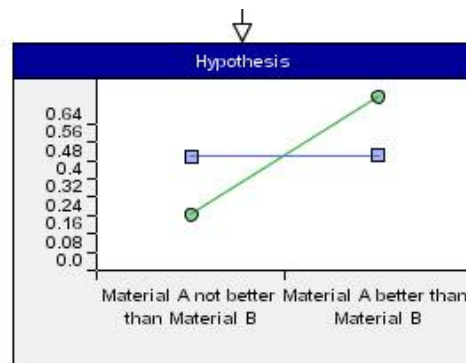

Figure 13 Results of hypothesis test with two different prior assumptions
24. Double-click on the *Hypothesis* node to show its risk graph. It should look like the one shown in Figure 13.